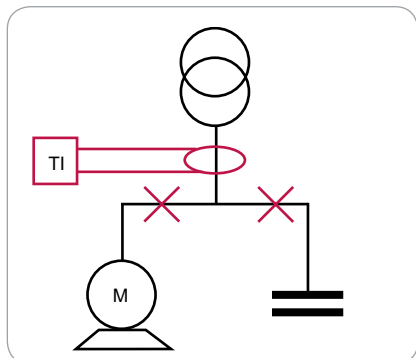

Fig. 11 Diagram of connection to a single LV busbar and CT location.
It is indispensable to set up the current transformer (CT) in accordance with **Fig. 11**, and installing the system at any of the points indicated by a cross would result in the system malfunctioning.